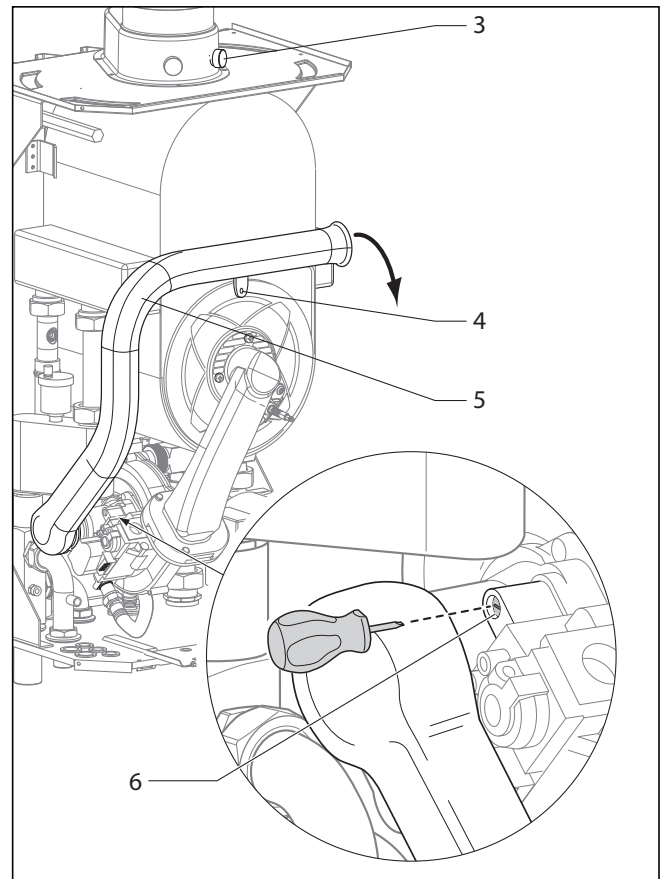

Fig. 5.4 Carrying out a CO₂ measurement, carrying out an air ratio setting (gas setting)
- Measure the CO₂ content at the flue gas test nozzle (3) (fig. 5.4). Compare the value measured with the corresponding value in table 5.2.
- If a setting of the flue gas value is necessary, unscrew the screw (4) and move the air intake pipe (5) forward by 90°.